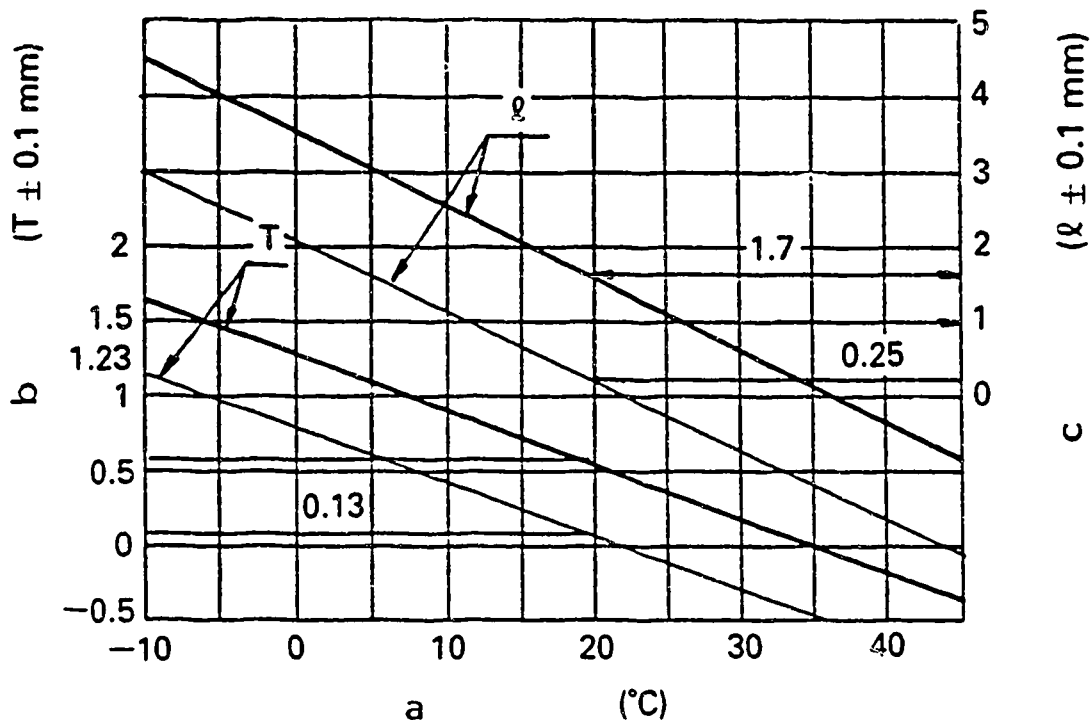

Fig. 49
- 1) Calculate the timer stroke from Fig. 49 according to the atmospheric temperature at the time of adjustment.
Formula for calculating timer stroke: (Fig. 49)
- 1) Calculate the block gauge dimension  $l \pm 0.05$  mm from (Fig. 49) according to the atmospheric temperature at the time of adjustment.
- 2) Insert the block gauge (thickness gauge) selected in (Fig. 49) between the bracket and the idling stopper bolt.